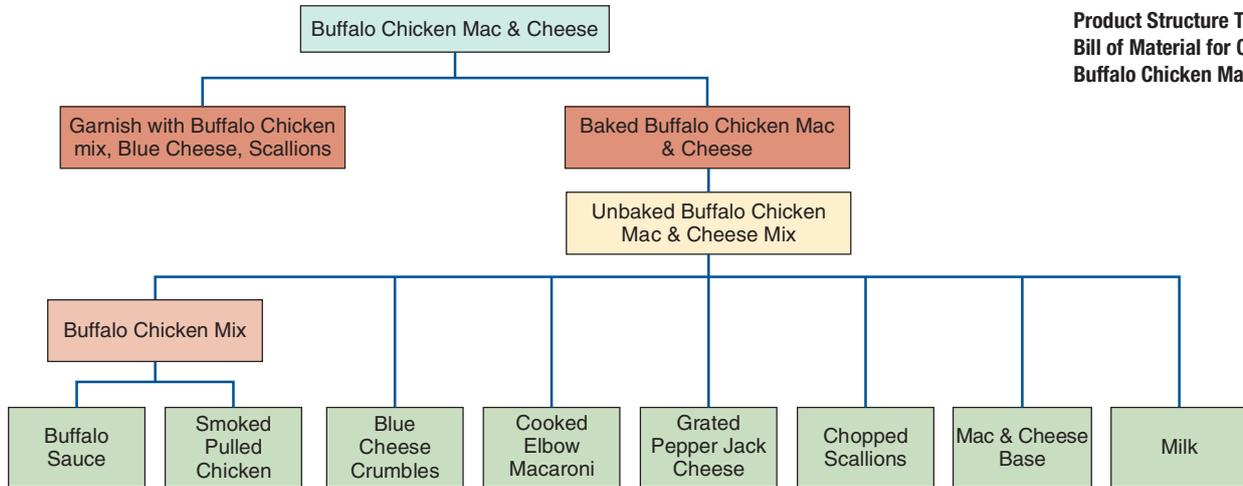

Figure 14.9
**Restaurants** In restaurants, ingredients and side dishes (bread, vegetables, and condiments) are typically meal components. These components are dependent on the demand for meals. The meal is an end item in the master schedule. Figure 14.9 shows (a) a product-structure tree and